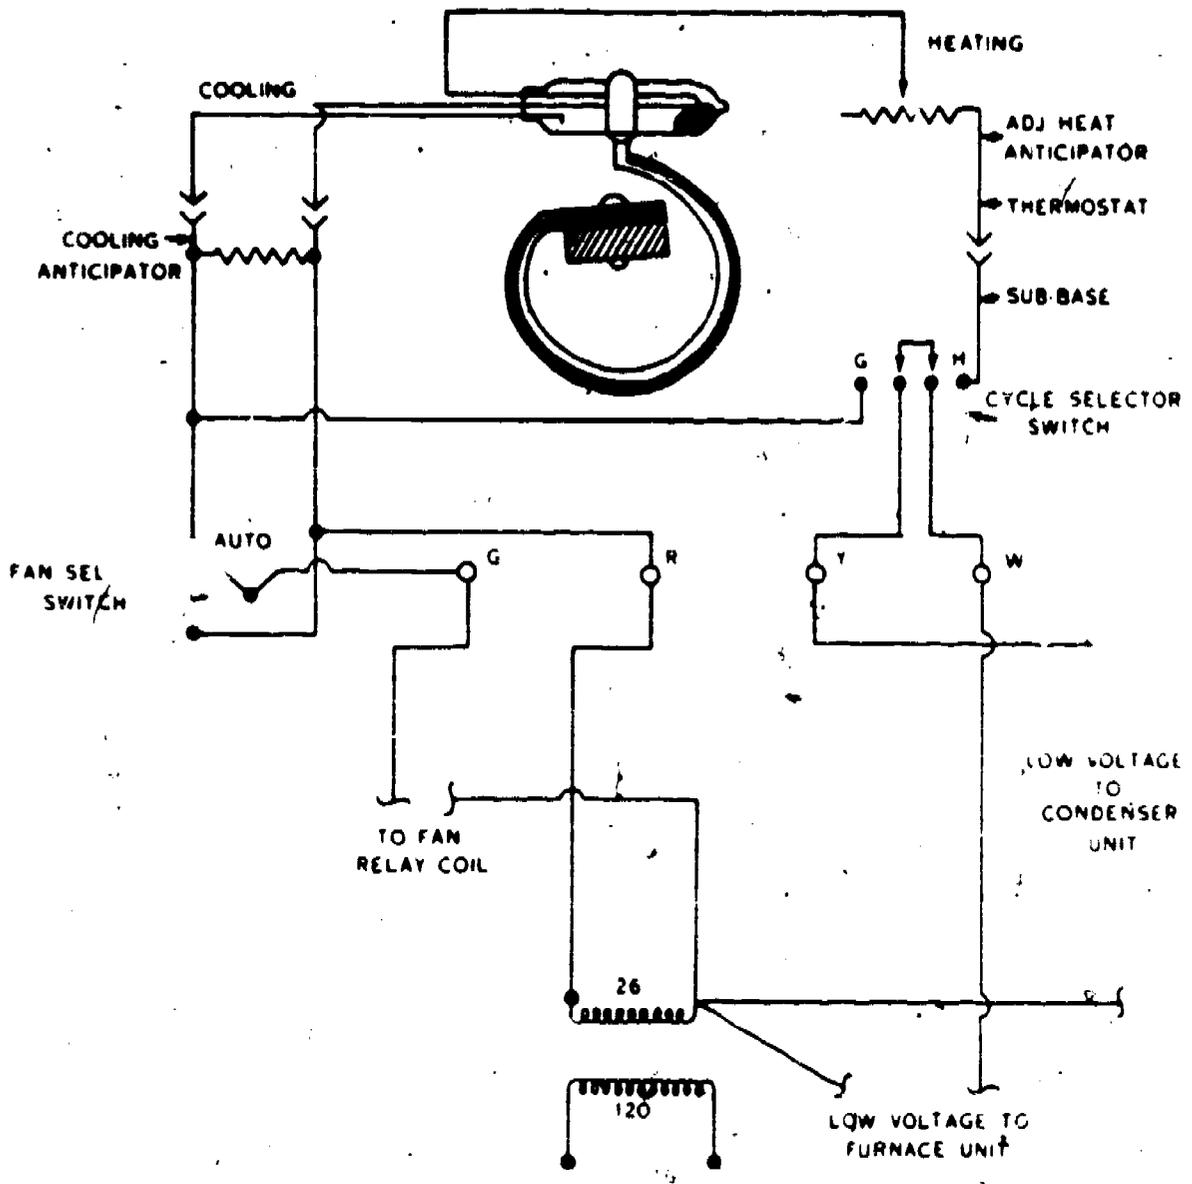

Figure 12. Low-Voltage Thermostat Wiring Schematic
Low-voltage thermostats operate on 24 or 26v ac depending on the current load and type of transformer used. In homes, wired for 110v ac, the 24v ac thermostat is used. Newer homes, wired for 115-120v ac, provide the thermostat with 26v ac. There are several styles of thermostats: the one most commonly used is the type which places the contactors in a sealed glass bulb containing mercury, see figure 12. The bulb is attached to the sensing device, normally a bimetal coil; and the bulb tilts in response to the change in the controlled variable.
**THE COOLING ANTICIPATOR.** The cooling anticipator appears as a fixed resistor in the thermostat subbase. The anticipation function is the reverse for the cooling cycle as it is for the heating cycle. The cooling anticipator is active only during the OFF cycle, and it is wired in the thermostat circuit in parallel with the power source (see figure 12). During the off cycle, the points in the contactor are open, so current taking the path of least resistance will divert through the anticipator and produce a minute amount of heat which is sensed by the bimetal coil in conjunction with the rise in the room temperature. This small amount of heat causes the thermostat to react prior to the temperature in controlled space getting too warm, thus allowing the temperature differential to be within  $\pm 3^{\circ}\text{F}$ .